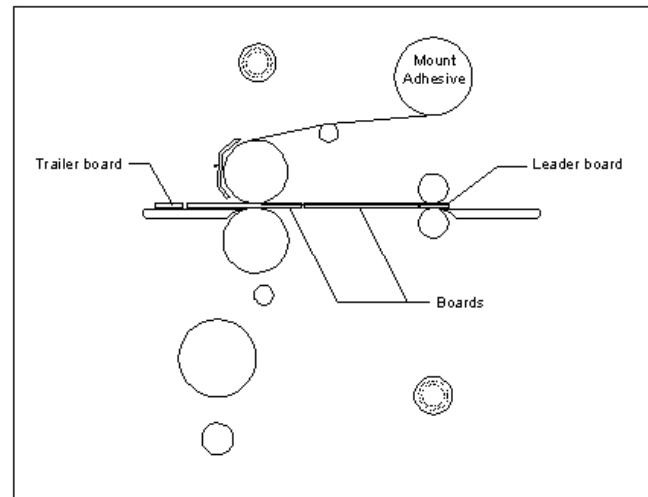

Fig 34
(Figure 34)
1. Load the laminator as illustrated in Figure 34. Remove chill idler.